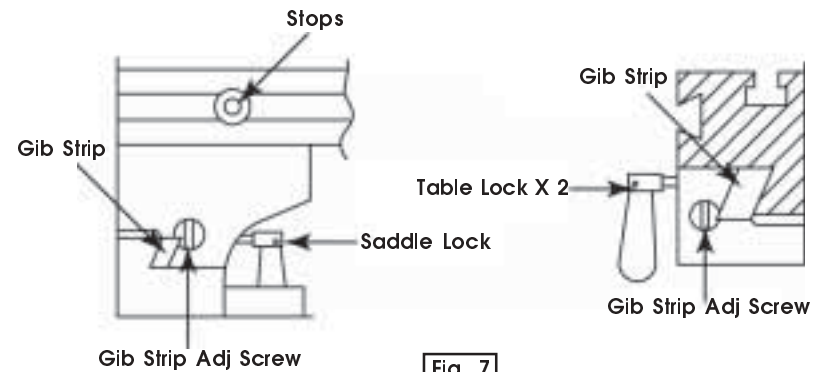

Fig. 7
7. Adjust Gib strip screws, (160) (see Fig. 7). Using suitable screwdriver, slowly turn the gib